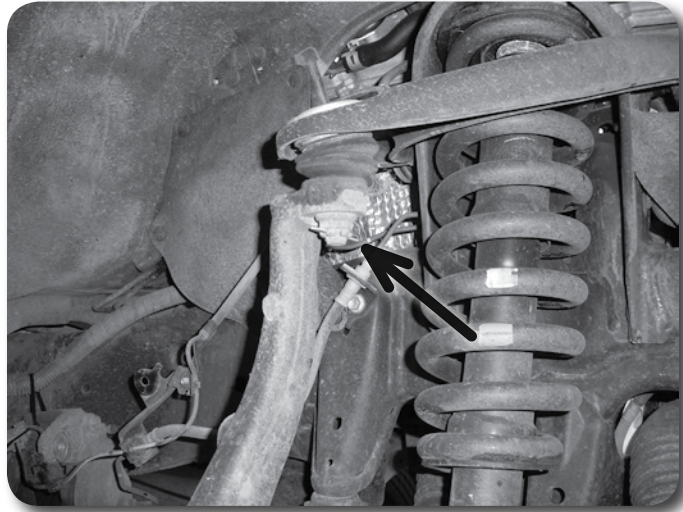

Figure 14
18. Remove the upper ball joint cotter pin and save. Remove the upper ball joint nut and thread back on a couple of turns by hand. Strike the knuckle near the upper ball joint to dislodge the ball joint taper **Figure 14**. Take care not to strike the ball joint. Pull down on the upper control arm and remove the upper ball joint nut. Save nut.